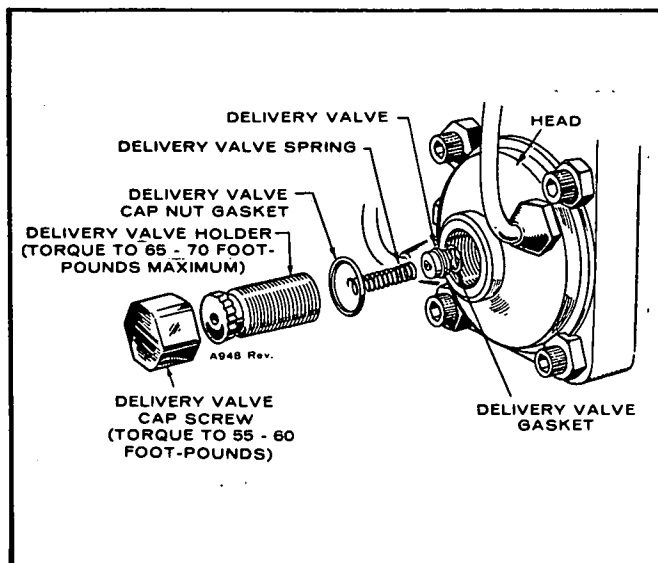

FIGURE 18. DELIVERY CAP VALVE SCREW
2. Remove the delivery valve cap screw (Figure 18) and lift out the delivery valve spring and delivery valve.
3. Rotate the flywheel counterclockwise to about 15 degrees before the port closing mark (PC). The pointer to indicate timing marks is located on the gear cover near the governor arm. Use a socket wrench on the flywheel cap screw to rotate the flywheel.